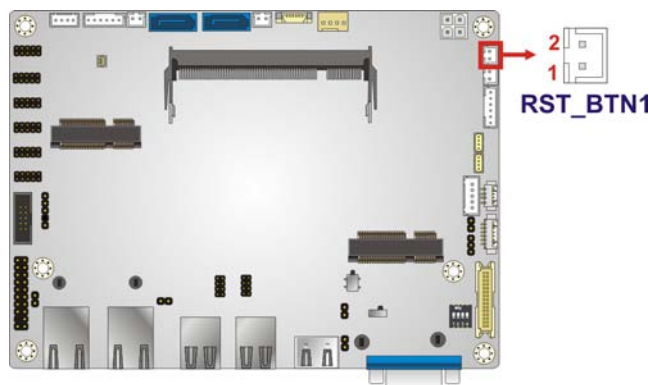

Figure 3-19: Reset Button Connector Location
- CN Location:See **Figure 3-19**